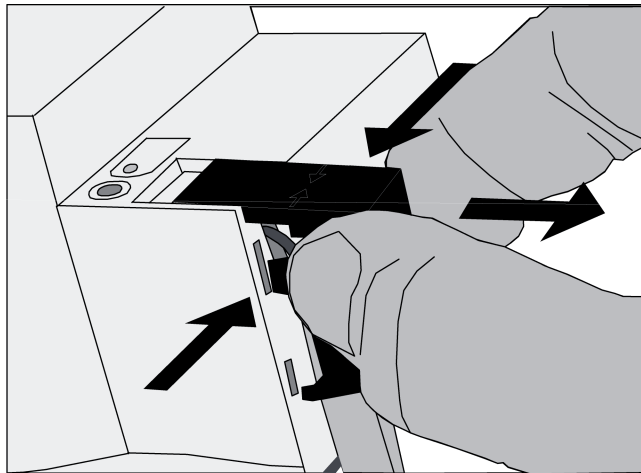

Figure 6: Removing the cover
- Press the cover to the side and pull it off (figure 6).